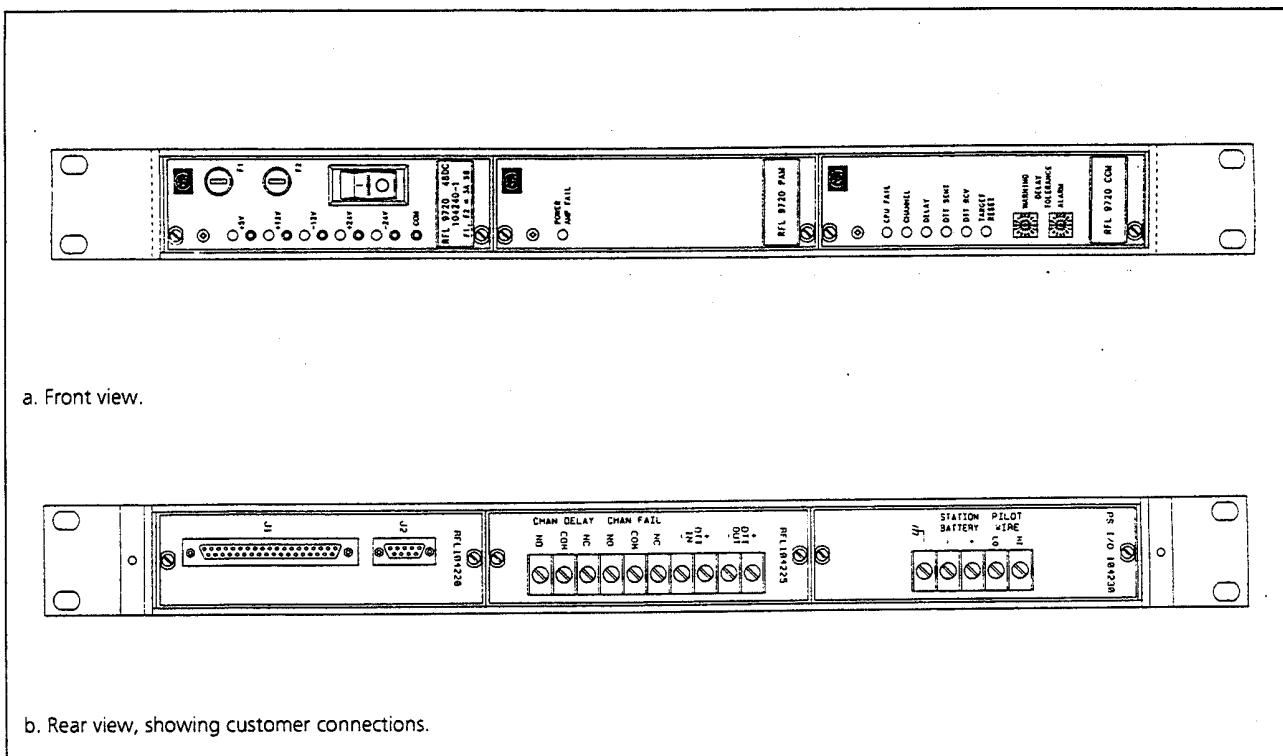

Figure 2. RFL 9720 unit mounted in a flat-pack chassis
Each RFL 9720 unit consists of three main circuit board modules: the Communications And Control Module (CCM), the Power Amplifier Module (PAM), and the Power Module (PM). Connections to each module are made through I/O modules, which are mounted at the rear of the chassis. The RFL 9720's modular construction allows for a variety of packaging arrangements. For example, a single RFL 9720 unit can be mounted in a flat-pack chassis that is one rack-unit high (1.75 inches, or 4.45 cm), as shown in Figure 2. It can also be mounted in a panel-mount chassis that is 5.25 inches high and 6.4 inches wide (13.34 cm x 16.25 cm), as shown in Figure 3. Up to four RFL 9720 units can be mounted in a rack-mount 3U chassis (5.25 inches, or 13.34 cm), as shown in Figure 4.